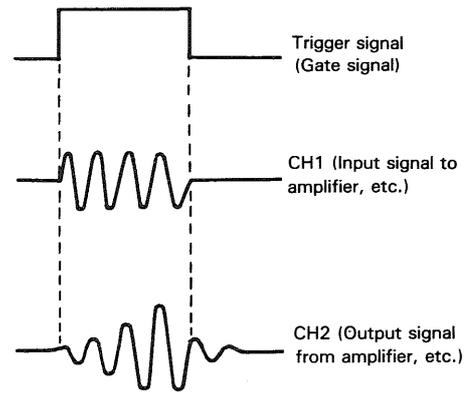

Fig. 7
When the SOURCE selection is in EXT/CH3, the input signal at the EXT TRIG INPUT ⑳ jack becomes the trigger. This signal must have a time or frequency relationship to the signal being observed to synchronize the display. External sync is preferred for waveform observation in many applications. For example, Fig. 7 shows that the sweep circuit is driven by the gate signal when the gate signal in the burst signal is applied to the EXT TRIG INPUT jack. Fig. 7 also shows the input/output signals, where the burst signal generated from the signal is applied to the instrument under test. Thus, accurate triggering can be achieved without regard to the input signal fed to the INPUT ⑤ or ⑨ jack so that no further triggering is required even when the input signal is varied. When the vertical MODE is set to TRI, triple-trace display is provided and the signal applied to EXT/CH3 is to be used to trigger the sweep, with INTERNAL sync possibility.